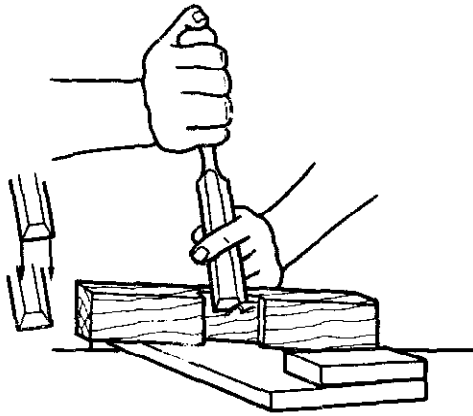

Fig. 9-20 Cutting vertically across grain.
2. Hold the chisel with the right hand and guide the blade with the left hand. Use the guide hand as a brake by pressing the forefinger and thumb together on the blade. See figure 9-20.